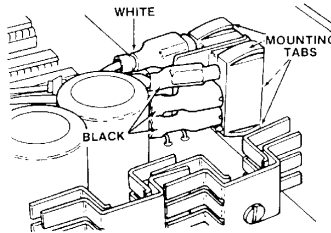

Figure 27. Power Switch Removal.
- b). Remove the six wires connected to the power switch noting their location for reassembly (See Figure 27).
- c). Push together the four mounting tabs and remove the switch by pulling it out the front of the chassis (See Figure 27).